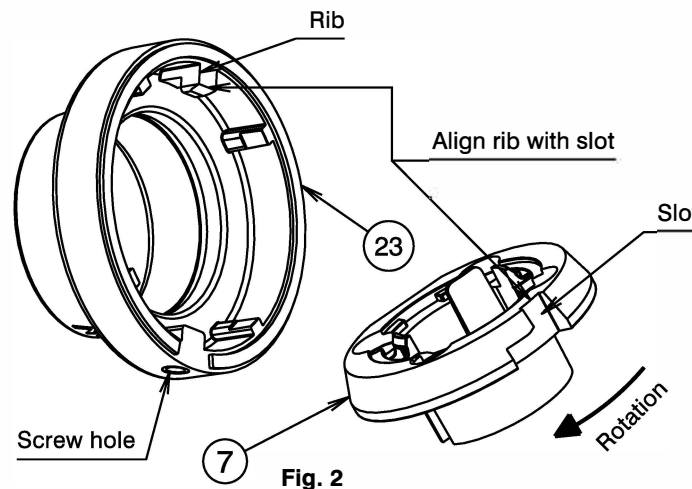

Fig. 2
If warm water is needed, push yellow indicator (19) into faceplate (22) until indicator completely seats onto faceplate (22). Ensure seal is fitted into base of faceplate (22), align rib of faceplate (22) with slot in mounting plate (7), then fit faceplate assembly into mounting flange (7), push it firmly against wall/tile face and rotate it clockwise till it stops as shown in **Fig. 2**, then tighten screw (23) using 2.5mm torx key (18).
If cold water is needed, push blue indicator (20) into faceplate (22) until indicator completely seats onto faceplate (22). Ensure seal is fitted into base of faceplate (22), align rib of faceplate (22) with slot in mounting plate (7), then fit faceplate assembly into mounting flange (7), push it firmly against wall/tile face and rotate it clockwise till it stops as shown in **Fig. 2**, then tighten screw (23) using 2.5mm torx key (18).
If hot water is needed, push red indicator (21) into face plate (22) until indicator completely seats onto faceplate (22). Ensure seal is fitted into base of faceplate (22), align rib of faceplate (22) with slot in mounting plate (7), then fit faceplate assembly into mounting flange (7), push it firmly against wall/tile face and rotate it clockwise till it stops as shown in **Fig. 2**, then tighten screw (23) using 2.5mm torx key (18).